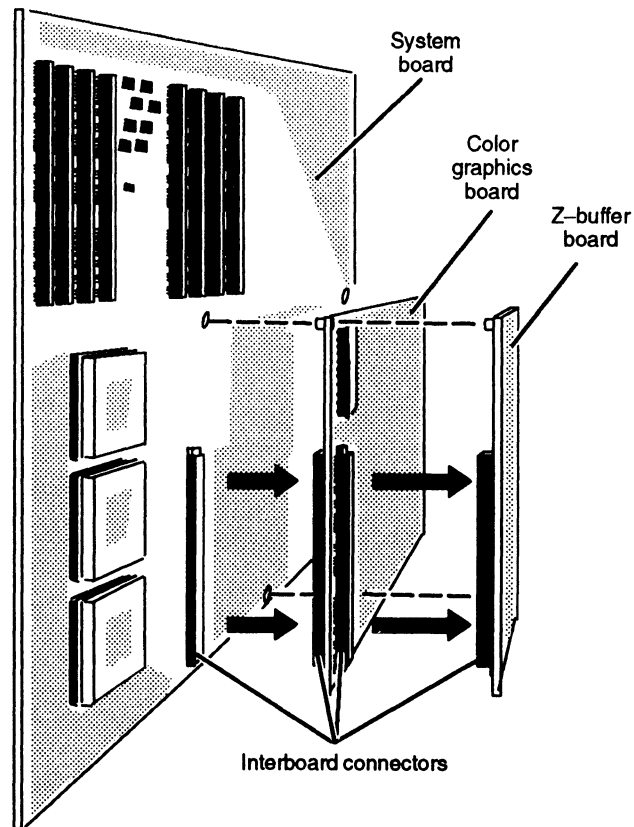

Figure 8-10 Separating the Interboard Connectors
3. Separate the interboard connector on the back of the top board from the interboard connector on the board behind it as shown in Figure 8-10.